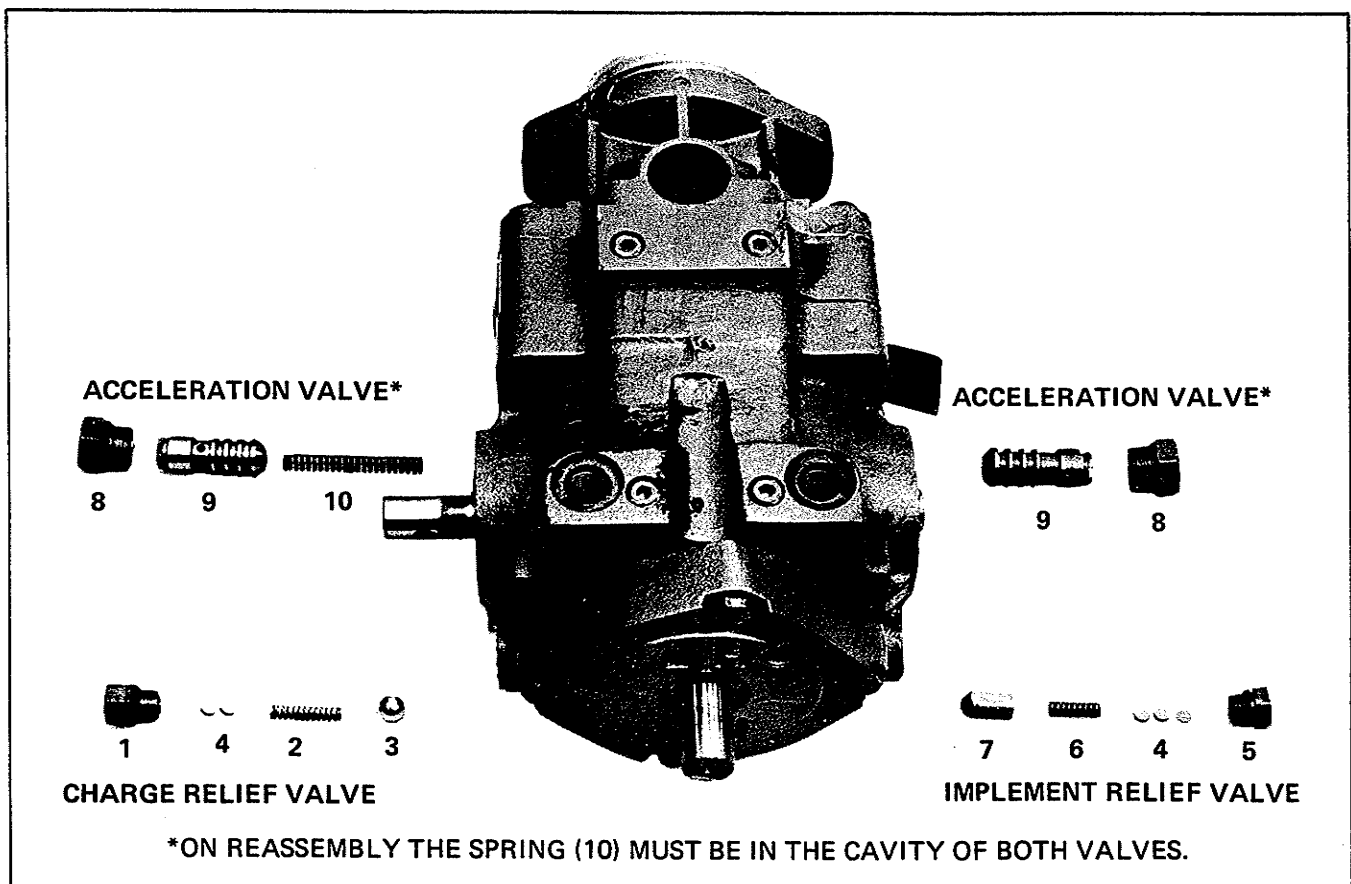

Figure 117. Charge Relief, Implement, and Acceleration Valves
Remove plug (Figure 117, item 1) then slide the spring (item 2) and ball (item 3) out of the housing. Do not alter the shims (item 4) if used or interchange parts with another valve. Inspect the ball and seat in housing for damage and remove any foreign material in the valve area. Replace parts as required and reinstall into housing bore.
Remove plug (Figure 117, item 5) then slide the spring (item 6) and poppet (item 7) out of the housing. Do not alter the shims (item 4) if used or interchange parts with another valve. Inspect the poppet and seat in the housing for damage and remove any foreign material in the valve area. Replace parts as required and reinstall into housing bore.
Remove plugs (Figure 117, item 8) from each side of housing and slide out one valve assembly (item 9) and spring (item 10) from one side of the other valve assembly from the other side. Inspect the valves and bores for damage and remove any foreign material in the valve area. Replace parts as required and reinstall into housing.